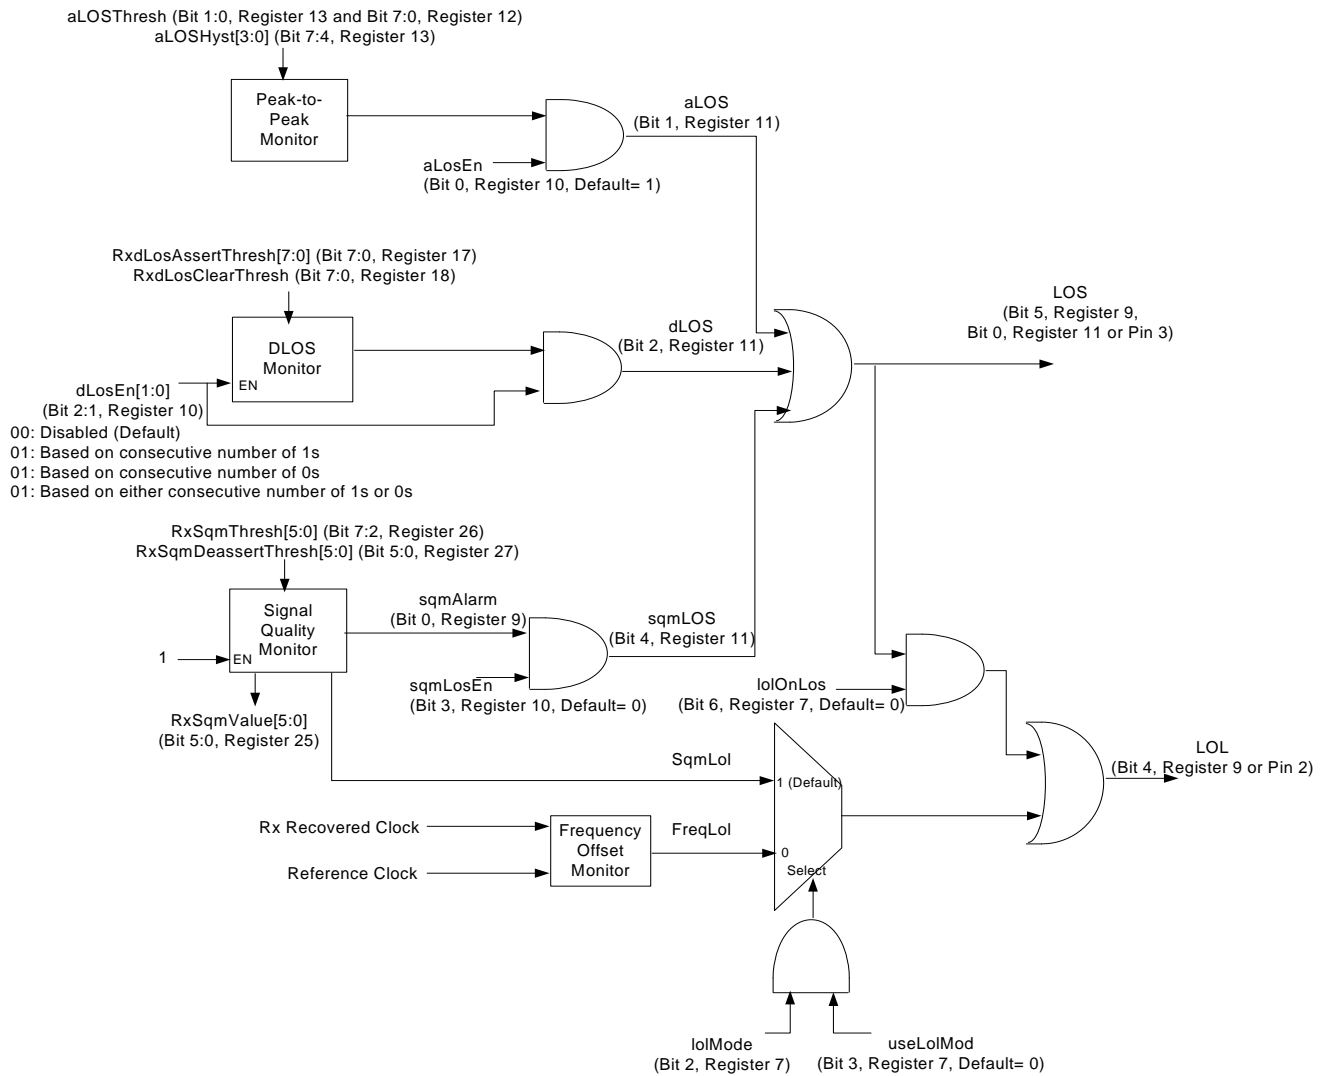

Figure 15. Rx LOS and LOL Block Diagram
The Si5040 receiver generates a loss-of-signal alarm when the input signal fails to meet the selected programmable condition for loss of signal. The programmable LOS mode is controlled in the RxlosCtrl register (Register 10). The programmable modes are Analog Loss Of Signal (ALOS), Digital Loss of Signal (DLOS), and Signal Quality Monitor (SQM). As shown in Figure 15, one or more of these alarm signals is logically combined into the Receiver Loss of Signal (RX_LOS) alarm pin (Pin 3). The state of the RX_LOS alarm pin will also be reflected in the LOS bit in the RxAlarmStatus register (Register 9). LOS may also be configured to generate an interrupt. The status of the LOS interrupt bit may be read in the RxintStatus register (Register 5). The status of the various LOS modes is stored in the losStatus register (Register 11).
LOL may be configured to generate an interrupt. The status of the LOL interrupt bit can be read from the RxintStatus register (Register 5). The status of LOL may also be read from the RxAlarmStatus register (Register 9). LOL may also be asserted upon activation of LOS (see "5.4. Receiver Loss of Signal Alarm (LOS)" on page 19 and Figure 15 on page 24). Receive data (RD) may be squelched on LOL. This option is configured in the RxdPathConfig register (Register 28).